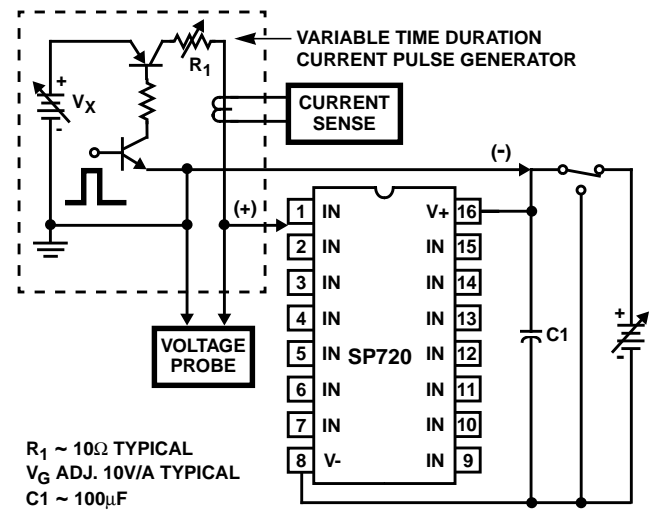
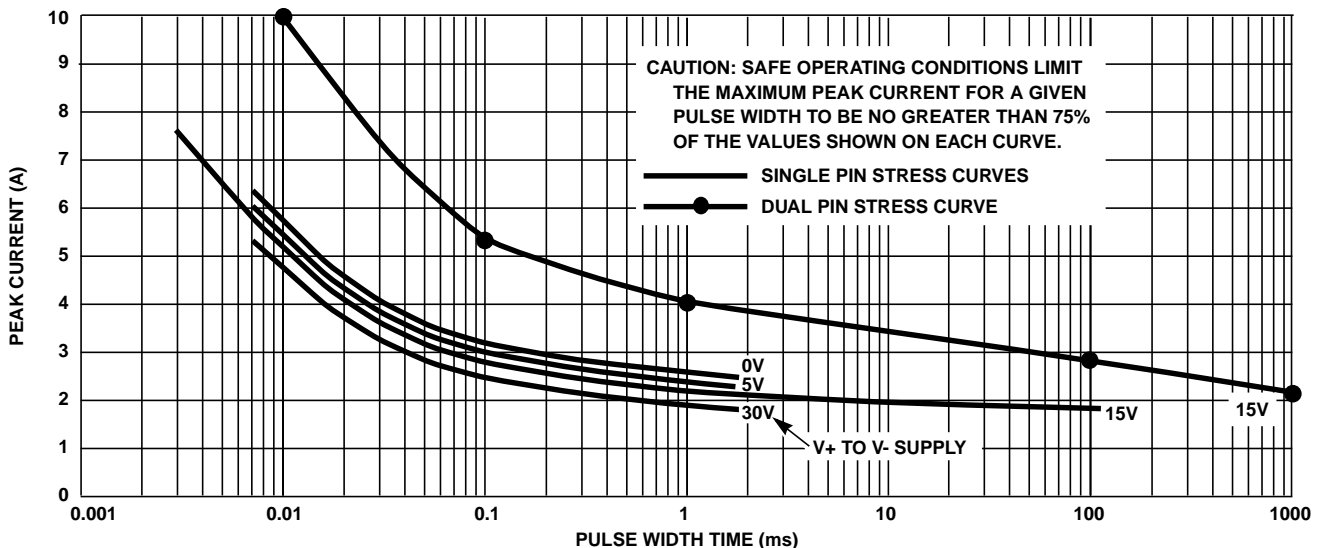

FIGURE 2. TYPICAL SP720 PEAK CURRENT TEST CIRCUIT WITH A VARIABLE PULSE WIDTH INPUT
FIGURE 3. TYPICAL SINGLE PULSE PEAK CURRENT CURVES SHOWING THE MEASURED POINT OF OVERSTRESS IN AMPERES vs PULSE WIDTH TIME IN MILLISECONDS ($T_A = 25^\circ C$)
Input Peak Current, I_{IN} (Refer to Figure 3) $\pm 2\text{A}$, 100 μs
3. Refer to the Figure 3 graph for definitions of equivalent "SCR ON Threshold" and "SCR ON Resistance". These characteristics are given here for thumb-rule information to determine peak current and dissipation under EOS conditions.
The test circuit shown in Figure 2 provides a positive pulse input. For a negative pulse input, the (-) current pulse input goes to an SP720 'IN' input pin and the (+) current pulse input goes to the SP720 V- pin. The V+ to V- supply of the SP720 must be allowed to float (i.e., it is not tied to the ground reference of the current pulse generator). Figure 3 shows the point of overstress as defined by increased leakage in excess of the data sheet published limits.
The maximum peak input current capability is dependent on the V+ to V- voltage supply level, improving as the supply voltage is reduced. Values of 0, 5, 15 and 30 voltages are shown. The safe operating range of the transient peak current should be limited to no more than 75% of the measured overstress level for any given pulse width as shown in Figure 3.
When adjacent input pins are paralleled, the sustained peak current capability is increased to nearly twice that of a single pin. For comparison, tests were run using dual pin combinations 1+2, 3+4, 5+6, 7+9, 10+11, 12+13 and 14+15. The overstress curve is shown in Figure 3 for a 15V supply condition. The dual pins are capable of 10A peak current for a 10μs pulse and 4A peak current for a 1ms pulse. The complete curve for single pulse peak current vs. pulse width time ranging up to 1 second is shown in Figure 3.